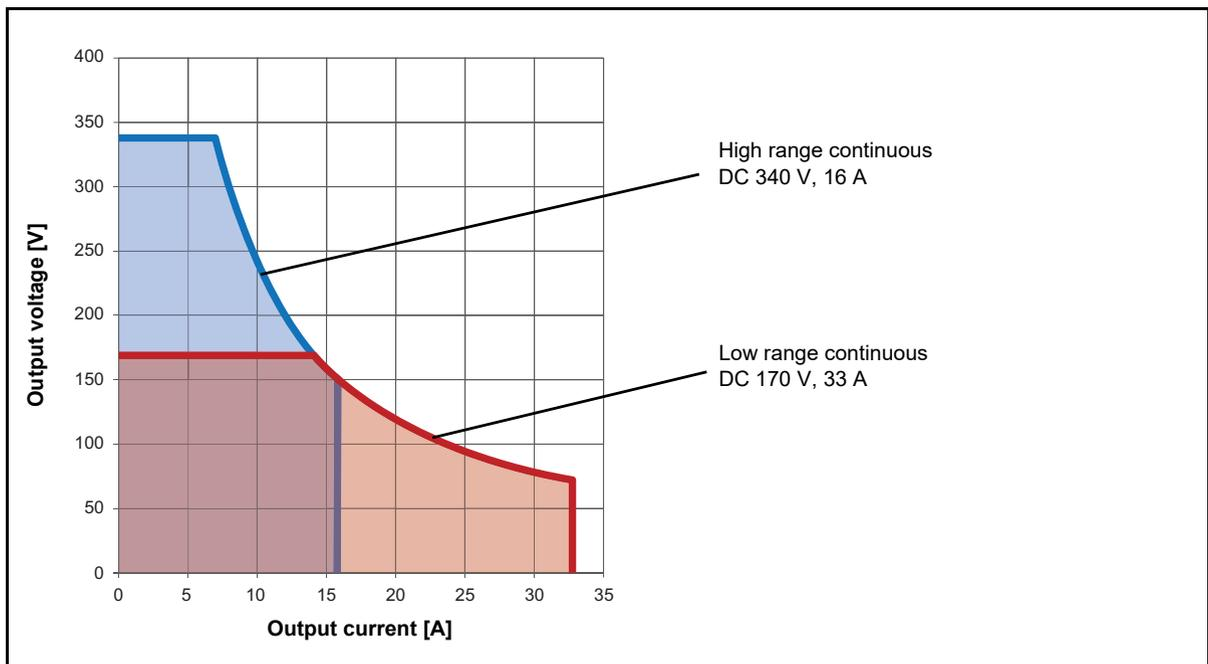

Figure 15-1: Permitted operating range 1 x DC 340 V 16 A
2. See Figure 15-1: "Permitted operating range 1 x DC 340 V 16 A" on page 221